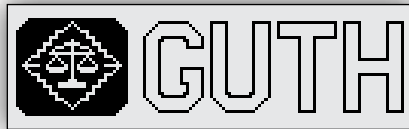

FIGURE 1
4. Turn the power ON. The simulator will beep and the screen shown in figure 1 will be displayed.